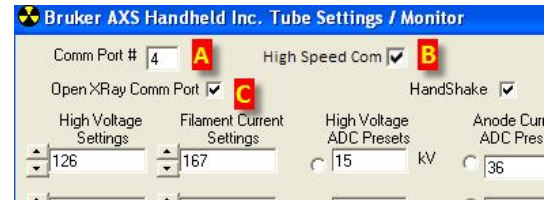

Figure 2
12. **ENTER** the appropriate Comm Port number (Figure 2 **A**).